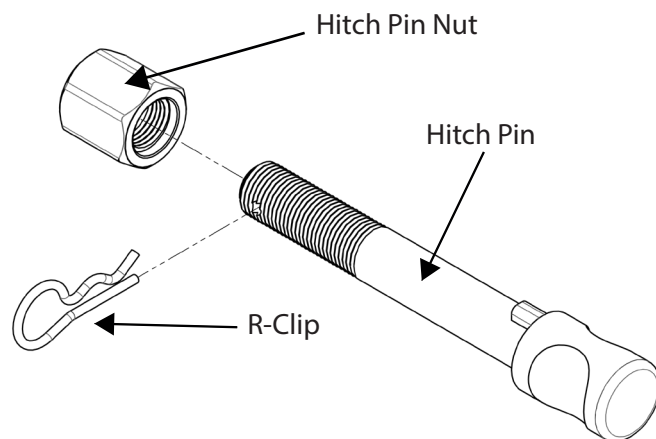

Fig 1. Silent Anti-Rattle Hitch Pin assembly
- a. Remove 3 screws inside and 1 under rear mid guard on both sides, refer figure 1.
Install HITCH PIN R CLIP through the hole on the HITCH PIN (Fig. 1).